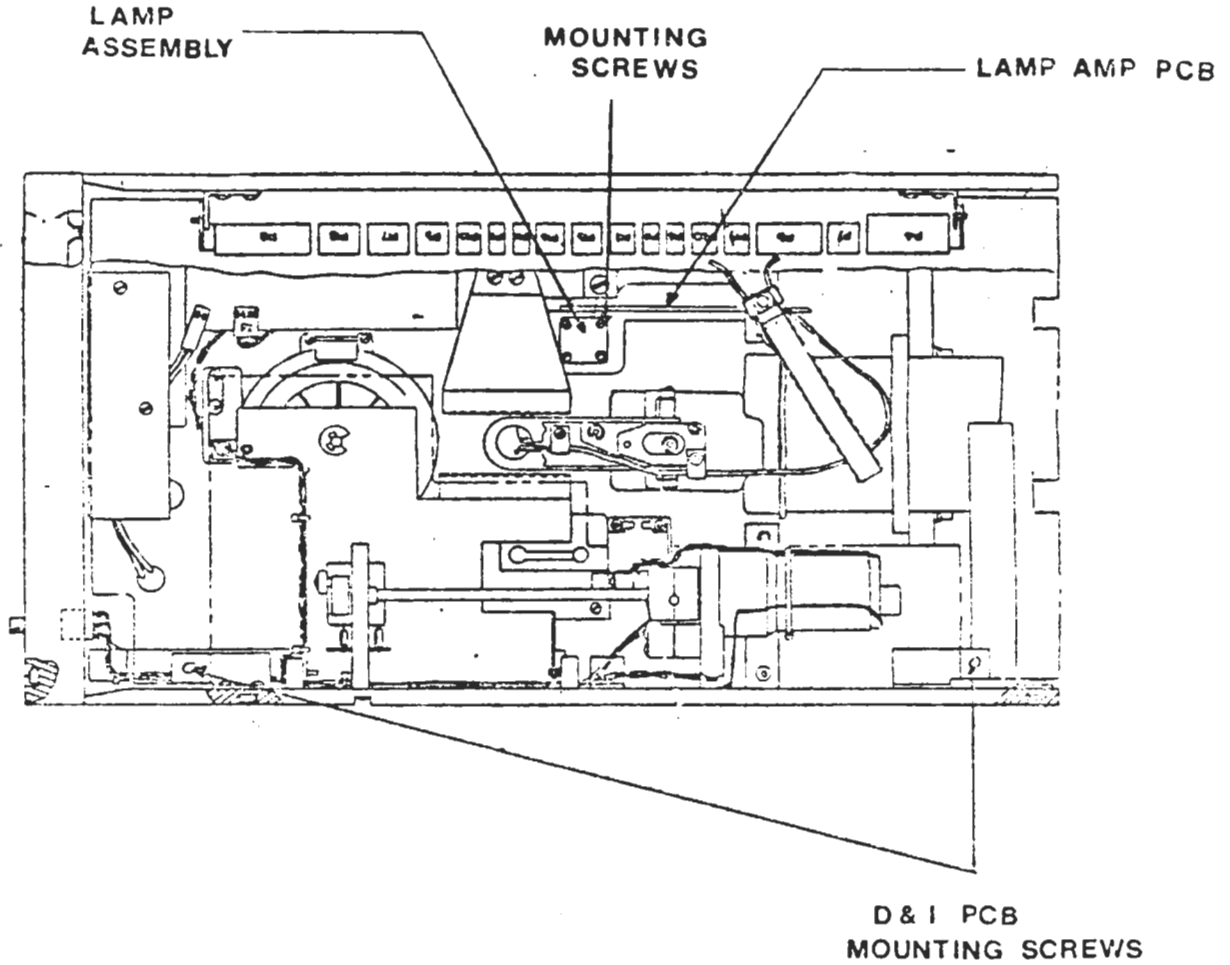

Figure 1
- 1) Remove drive from Helios cabinet and remove the 2 screws at the base of the Data & Interface PCB of the drive. This will allow the D & I board to swing upward on its hinges (see Figure 1).
- 2) Remove head load paddle unit 1 and wire guide on unit 1. Also remove 4 screws mounting the lamp assembly to the lamp housing. (See Figure 1.)
Connect scope to TP 7 on the Lamp Amp PCB and DC couple the scope. Scope should read about +1.5 volts if earlier than Serial Number 9500 or if there is NOT an 002 designation on the lamp assembly (D & I PCB must be lifted to determine this). If there IS an 002 marked on this lamp, scope should read +1.3 volts DC. If this voltage is incorrect, adjust R3 (2K pot on Lamp Amp PCB of Figure 1) for correct voltage.